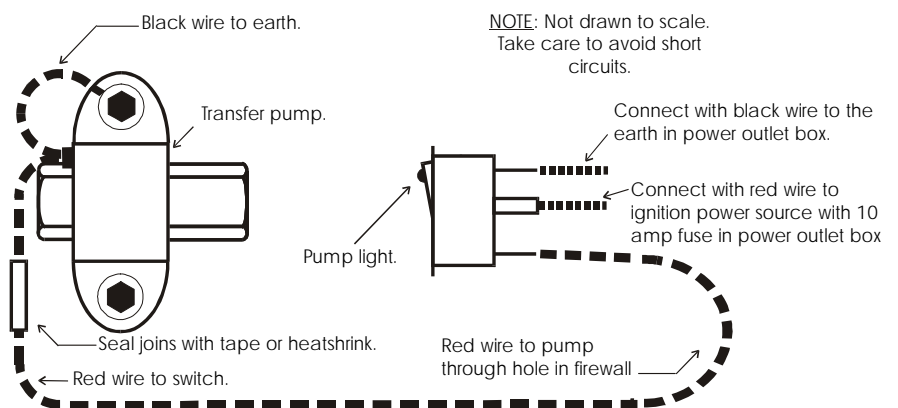

Figure 4
30. **REFER:** to Figure 4. Connect red wire, 4.0mm x 5.0 m to red pump wire using terminal spade connectors (black wire should already be earthed under fixing bolt). Seal connection to prevent water entry and corrosion.
33. REFER: to Figure 4. Connect the twin core wire to the switch and run the wire to the power outlet box in front of the battery. Using the terminal lugs supplied connect the black wire to the earth and the red wire to the ignition power source (**10 amp fuse**) in the power outlet box.